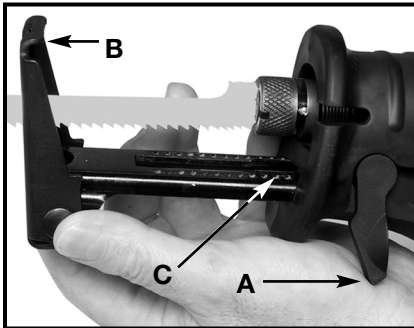
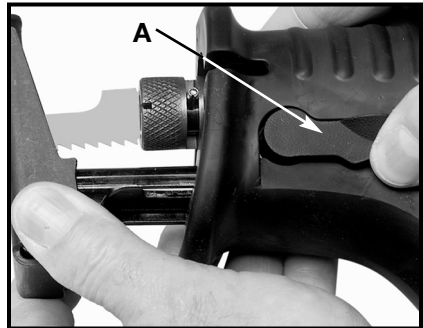

Fig. 12B
Fig. 12C
2. The **Models 746 and 747** are supplied with a keyless *Quik-Change™* pivoting guide shoe. To adjust, rotate lever (A) Fig. 12B, releasing the pivoting guide shoe (B). Adjust to desired position and close lever (A) Fig. 12C. The keyless *Quik-Change™* pivoting guide shoe is designed with a raised lip (C) at the end that prevents the guide shoe from locking in position if it is extended out too far. After adjusting, make sure the locking lever is completely closed in the locked position (A) Fig. 12C.